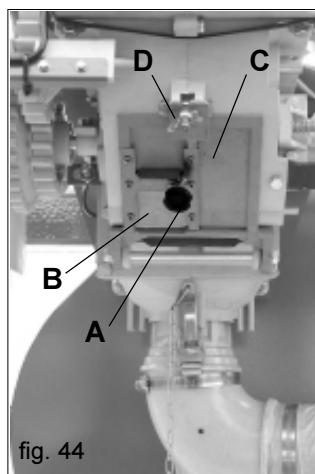

fig. 44
- a) put a bag or a container under the discharge hatch of the dosing apparatus, and then unscrew the knob (A Fig. 44) to discharge the hopper contents through the hatch (B). Lastly, open the discharge hatch (C Fig. 44) by unscrewing the wing nut (D Fig. 44) to empty the remaining contents of just the doser;